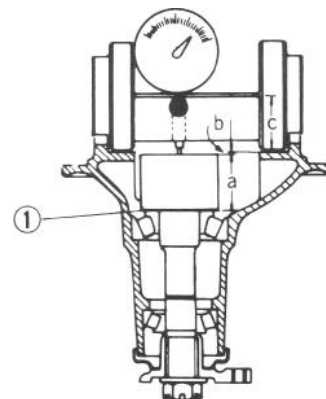

Fig. 16-21-3
- 4) Referring to Fig. 16-21-3, note that three dimensions are involved: "a" "b" and "c". The value of "b" is unknown, and is to be determined now for calculating the required thickness of shims. The values of "a" and "c" are given: the sum, "a" + "c" is 94 mm, which is indicated on the dummy tool.
5) Shim stock is available in twelve selective thicknesses. Select one or two shim(s) from the below to obtain the closest thickness to above required thickness, and insert selected shim piece(s) into clearance indicated as Fig. 16-21-3 ①